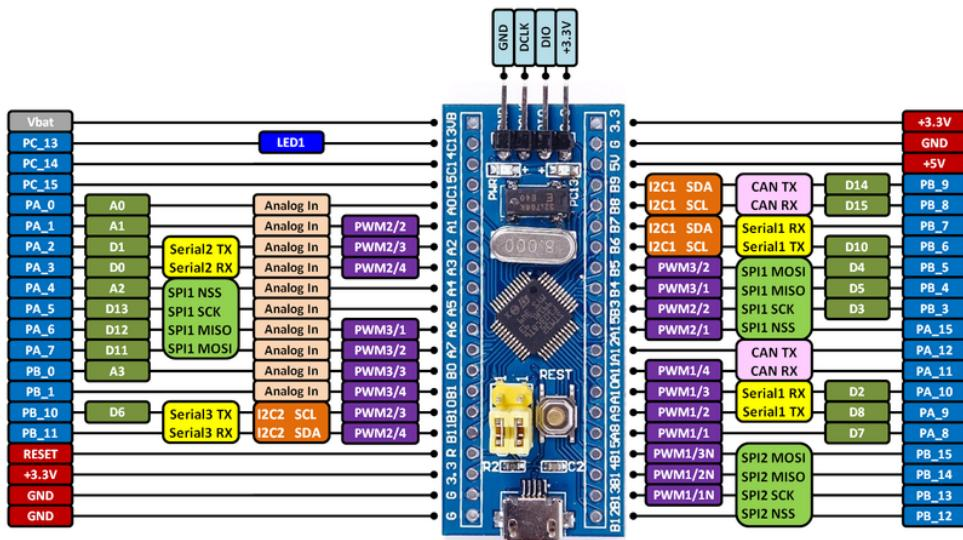

Fig. 14.1: Pin Connections of STM-32
- The STM32F103C8T6 micro-controller in Fig. 14.1 has two ground pins, few analog input pins and few digital pins that can be used for both input as well as output. It has one Vcc (3.3V) pin that can generate 3.3V. In the following exercises, only the GND, 3.3V and digital pins will be used.